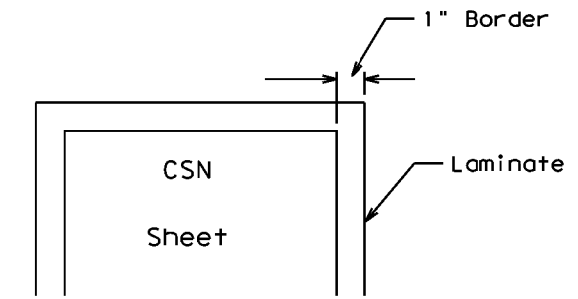

Figure 1
3. CSN Sheets will be laminated and attached to the sign with an adhesive. Ensure sheets remain dry. (See Figure 1).